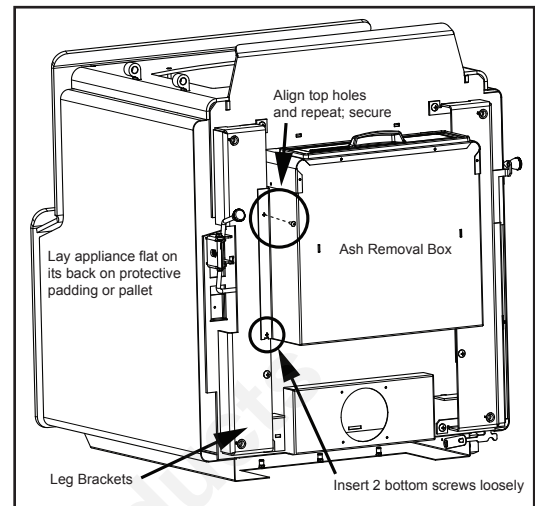

Figure 19.1
- Start bottom two bolts through ash drawer, leg mount and into the bottom of the appliance (**Figure 19.1**).